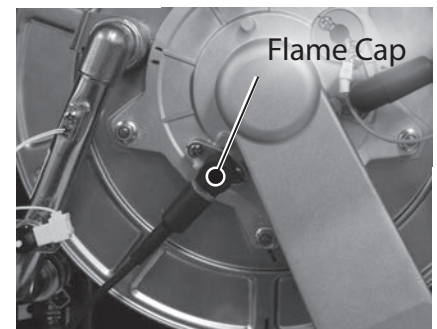

Figure 73 - Remove flame sensor cap
- 5 Locate the flame sensor on the burner assembly as shown in Figure 73. Remove the cap from the flame sensor. **DO NOT** pull on wires.